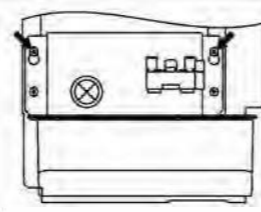

Fig.7
- (1) Install the screws to the 2 upper holes (indicated by the arrows shown in Fig. 7) of the mounting plate by hand tightening them about halfway, and then hook the Drain Pump on the screws.
- (2) Level the Drain Pump by using a spirit level.